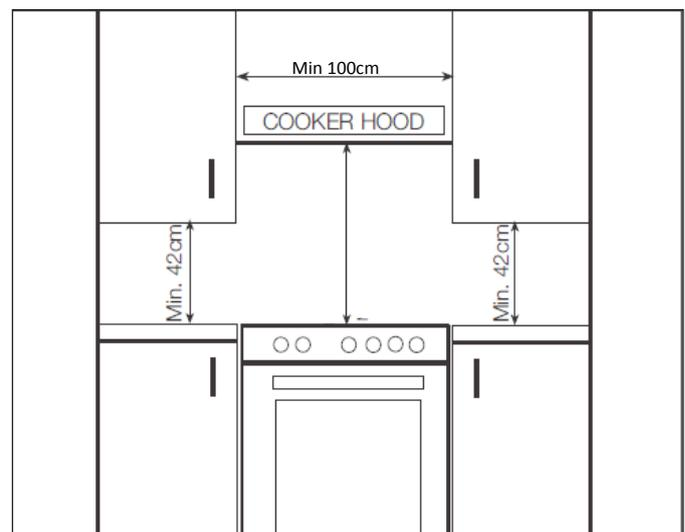

Figure 1
- Surrounding furniture, cabinets and extractor fans should be positioned in accordance with the diagram shown in figure 1. If fitted, the extractor fan must be at least 65cm above the hob. If no fan is fitted the minimum distance between the hob and any cabinet or other structure must be 75 cm.